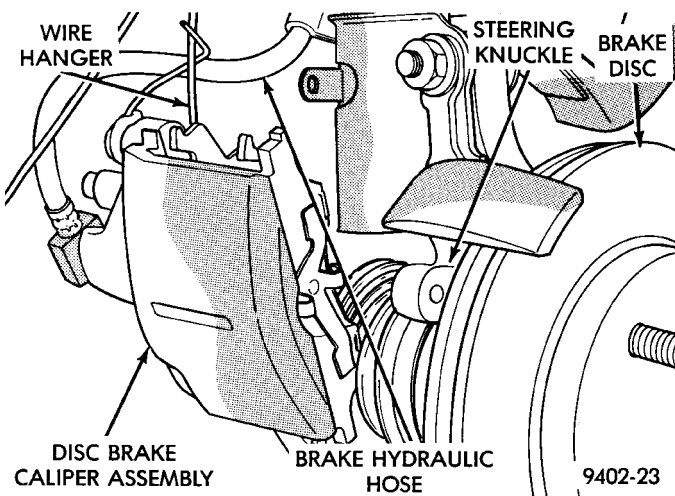

Fig. 18 Supporting Brake Caliper
(7) Support brake disc brake caliper assembly using a wire hook and not by hydraulic hose (Fig. 18).